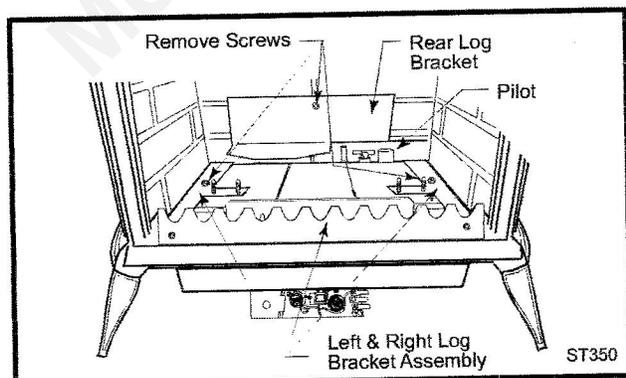

Fig. 44 Remove rear log bracket and left and right log bracket assembly.
5. Remove the rear log bracket by unfastening the screw. (Fig. 44)
6. Remove the right and left log bracket assembly by unfastening the two screws which hold the burner in place. (Fig. 44)